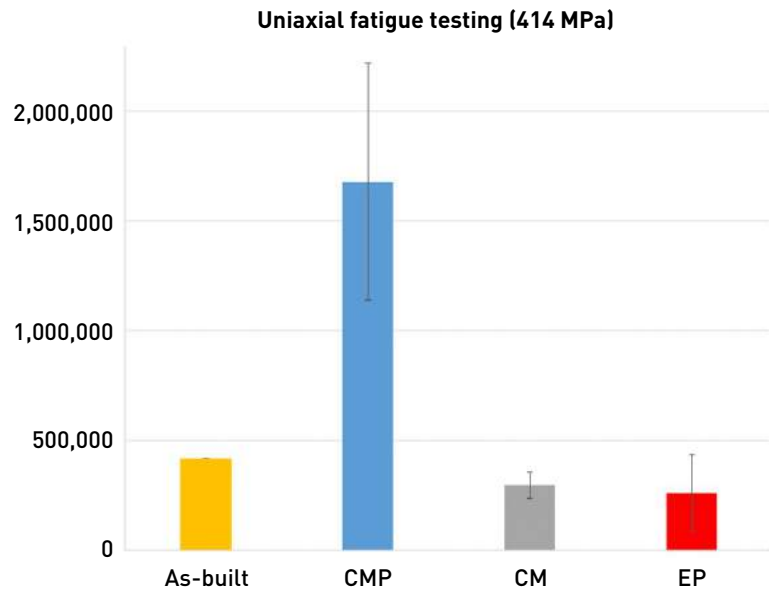

Fig. 9 Preliminary high-cycle fatigue data PBF-LB IN625 after CMP, CM and EP
Fig. 9 Components after machining. The surface finish shown is as-built, with machining operation limited to support removal and the machining of critical inner diameters. Note that careful fixturing is required in order to secure such complex geometries for the machining process (Courtesy Renishaw PLC)
In this SBIR, REM evaluated three primary finishing technologies individually and in combination: Chemical-Mechanical Polishing (CMP), electropolishing (EP) and chemical milling (CM – standard, non-optimised/not Chemical Polishing). Within the six-month period of performance, REM successfully developed a viable CMP process for IN625 and executed fifteen different processing approaches. X-Ray CT Scanning of components was used to determine the depth of primary near-surface void/porosity concentration (Fig. 7). Results showed that near-surface porosity was strongly concentrated in the first 200 μm of material (well within NASA MSFC’s material removal remit). Processes were evaluated for cycle time efficiency, their ability to maintain component shape (Fig. 8) and the quality of the final surface produced. Additionally, preliminary high-cycle fatigue (HCF) testing was conducted on coupon samples (Fig. 9). From this data, an OFT was selected – a combined processing approach of chemical milling (with a future goal of optimising formulations to convert to a CP process) followed by CMP. A demonstrator component (PBF-LB,